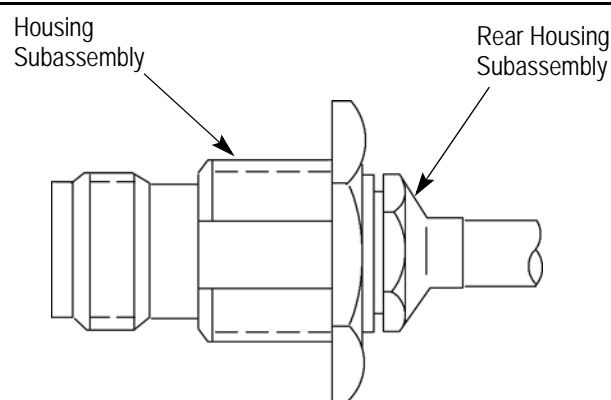

Figure 6
3.4. Assembling Housing Subassembly onto Rear Housing Subassembly (Figure 6)